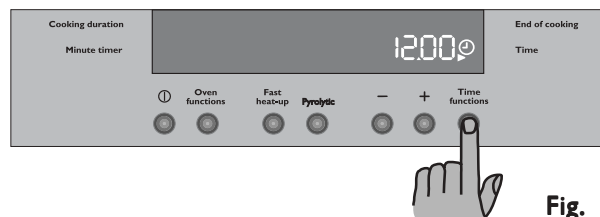

Fig. 1
a) press Time functions button and, while the symbol  is flashing (Fig. 1), set the correct time by pressing buttons “—” or “+” (Fig. 2).